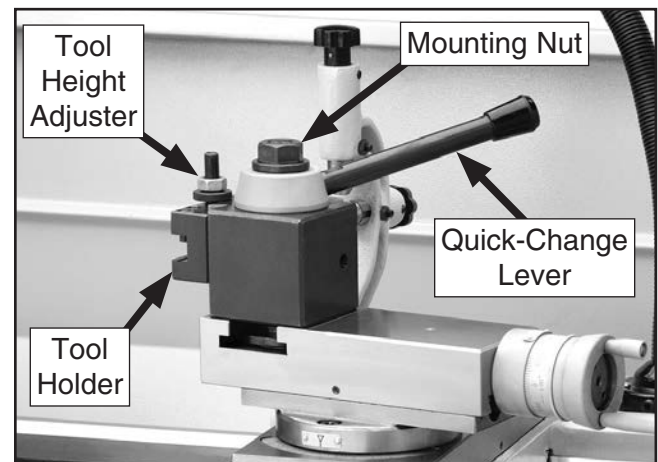

Figure 44. Tool post bolts.
2. Move the quick-change lever (see **Figure 44**) to recess the lock piston and provide an unobstructed slot for the tool holder to slide down into.